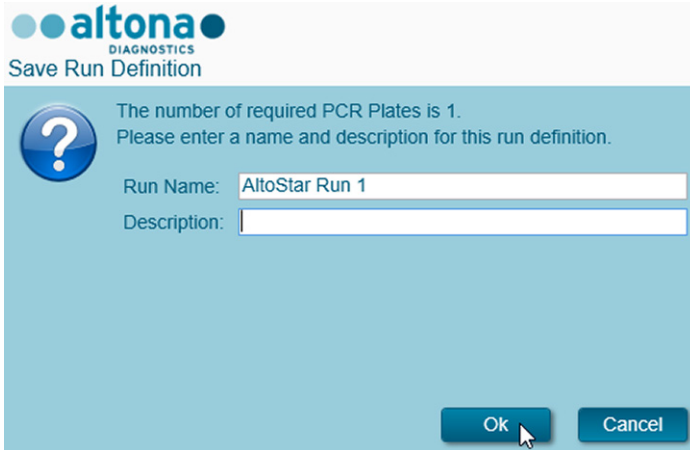

Figure 8: Save Run Definition dialog
3. Click the **Create Run** button in the tool bar of the Programming Screen. The **Save Run Definition** dialog is displayed (see Figure 8).